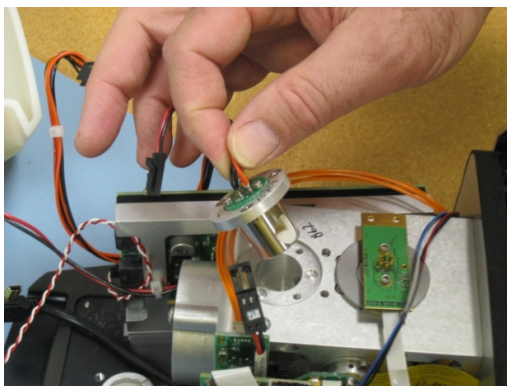

Figure 29. Removing the source assembly
- 7** Remove the source assembly from the frame (see Figure 29). Set aside the source and replace it with the new source assembly.